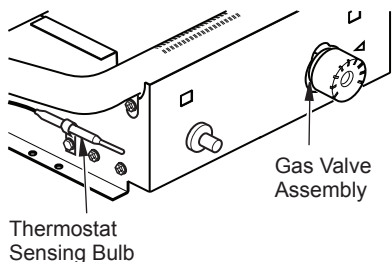

Figure 26 - Location of Gas Valve Assembly and Thermostat Sensing Bulb
1. Remove logs. Locate gas valve assembly and thermostat sensing bulb (see Figure 26).